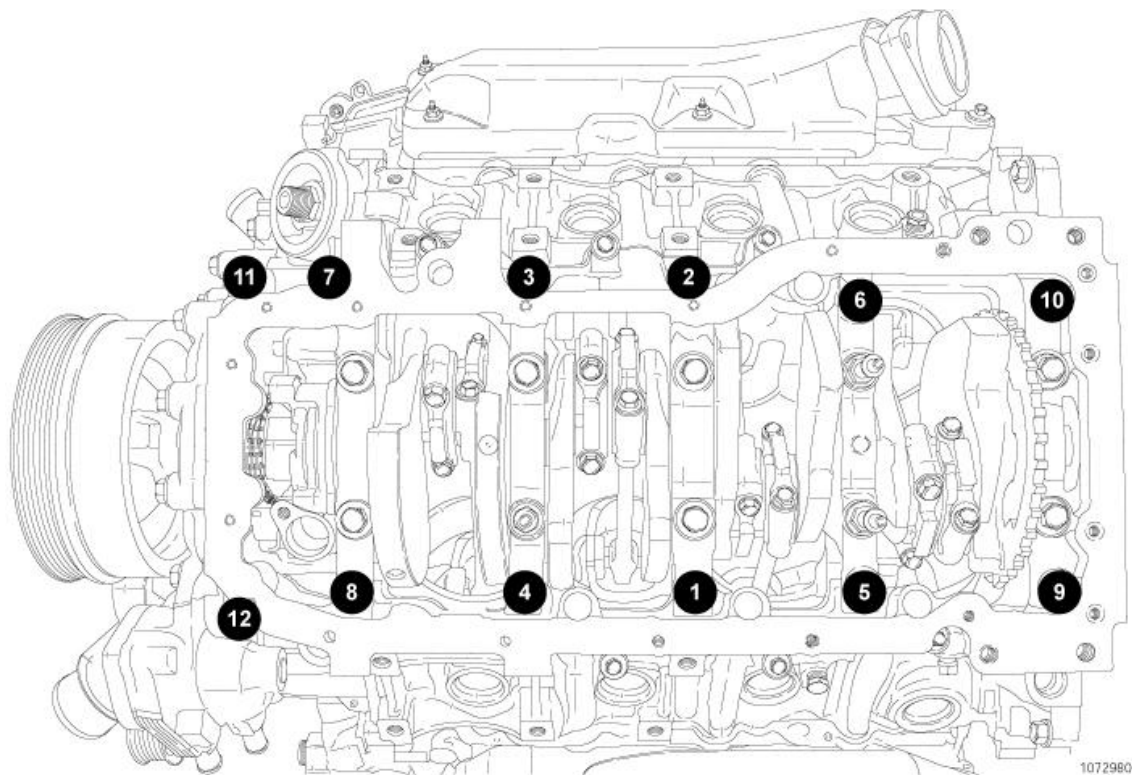

Fig. 147: Tightening Bedplate Bolts (2 Of 4)
8. Tighten bolts to 54 N.m (40 ft. lbs.) in the sequence shown in illustration. See **Fig. 147**.